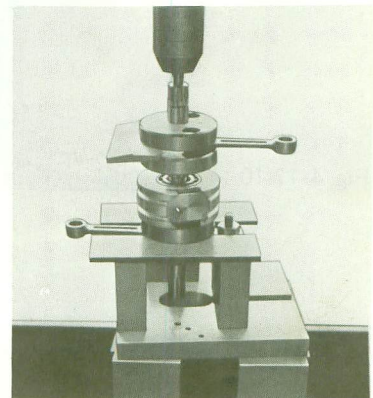

Fig. 4-17-18
- (6) First, install the crank cover over the male center spline. Then join the two crank halves together, making sure the rods are 180° apart. Note that tool No. 5 (crankshaft wedge) is placed between the upper crank wheels to prevent the crank wheels from collapsing against the rods. When you are sure the center splines are mating correctly apply pressure on the order of 10 (+) tons. Remove the crankshaft and check overall width. If overall width is correct the entire crank assembly may now be aligned. (Fig. 4-17-18)